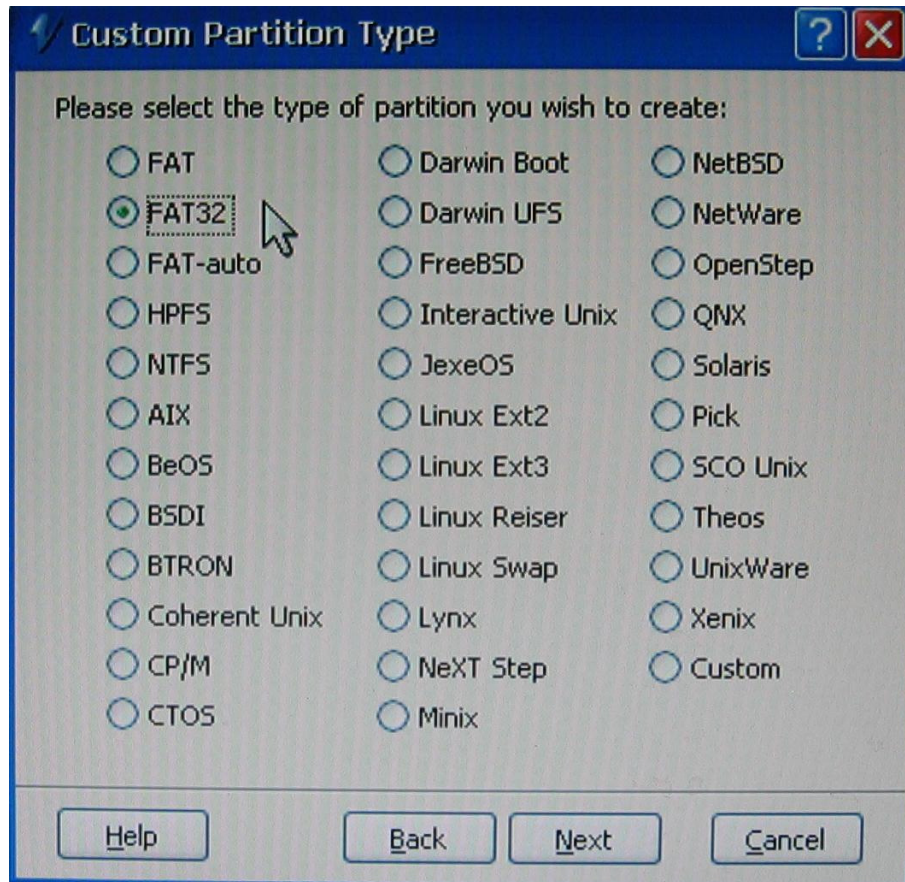

Figure 4-9 Fat32 Selection
5. Select 'FAT-32' and click 'Next' (see Figure 4-9). In the following 'Warning!' window, click 'Proceed'.